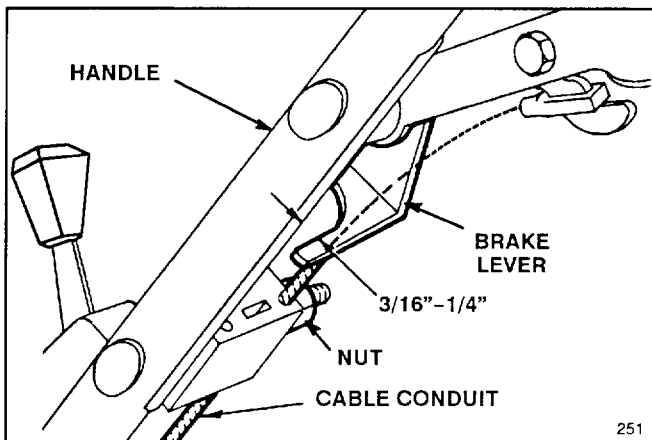

Figure 17
2. **CHECK ADJUSTMENT** (Fig. 17) – Move control bar toward handle until slack in wire is removed. Gap between brake lever and handle must be 3/16-1/4 inch. See step 3 for adjustment.
3. **ADJUST CABLE CONDUIT** (Fig. 17) – Loosen nut on cable bracket. Insert 3/16-1/4" object between brake lever and handle. Pull down on cable conduit until all slack is removed from wire. Then tighten nut.